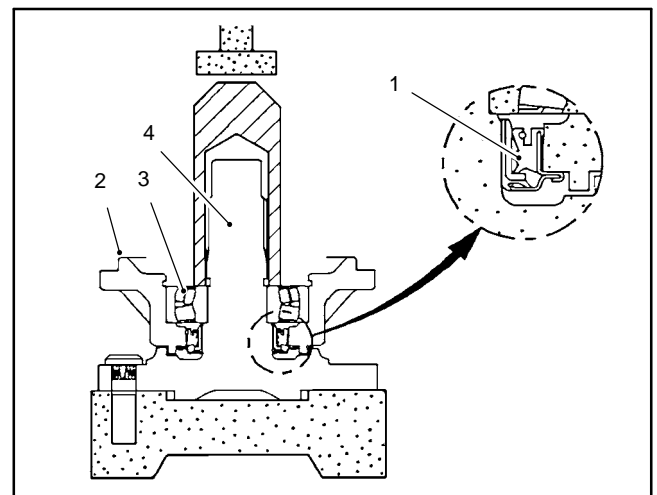

Figure 31
1. Coat new axle shaft seal with grease and install in axle cover as shown (Fig. 31).
2. Press the axle cover and bearing assembly onto the axle shaft. Press only on the inner race of the cover bearing (Fig. 31).